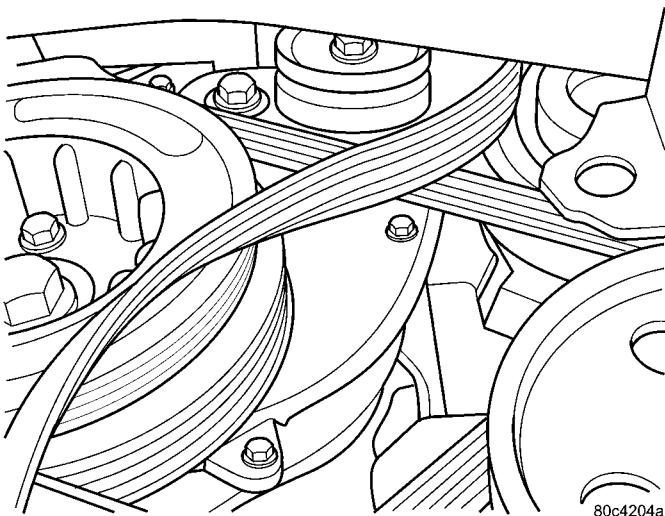
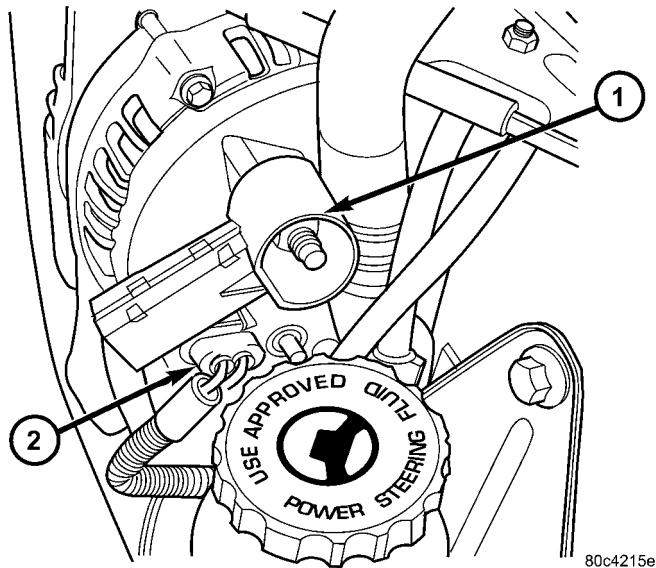

Fig. 4 GENERATOR BELT
Fig. 5 GENERATOR CONNECTIONS
(5) Remove the generator drive belt (Fig. 4).
(6) Lower vehicle.
(7) Disconnect the generator battery connection (Fig. 5).
(8) Disconnect the field connection (Fig. 5).
- (6) Connect the field connection (Fig. 5).
- (7) Connect the generator battery connection (Fig. 5).
- (8) Raise vehicle and support.
- (9) Install the generator drive belt (Fig. 4).